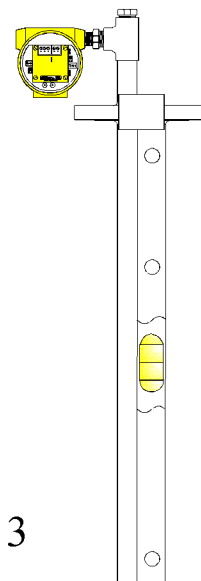

FIGURE 3
3. The Sensing Element tracking a Magnetic Float inside a Stilling Well when the assembly is inserted inside a vessel environment. Figure 3 (CLT-S25)